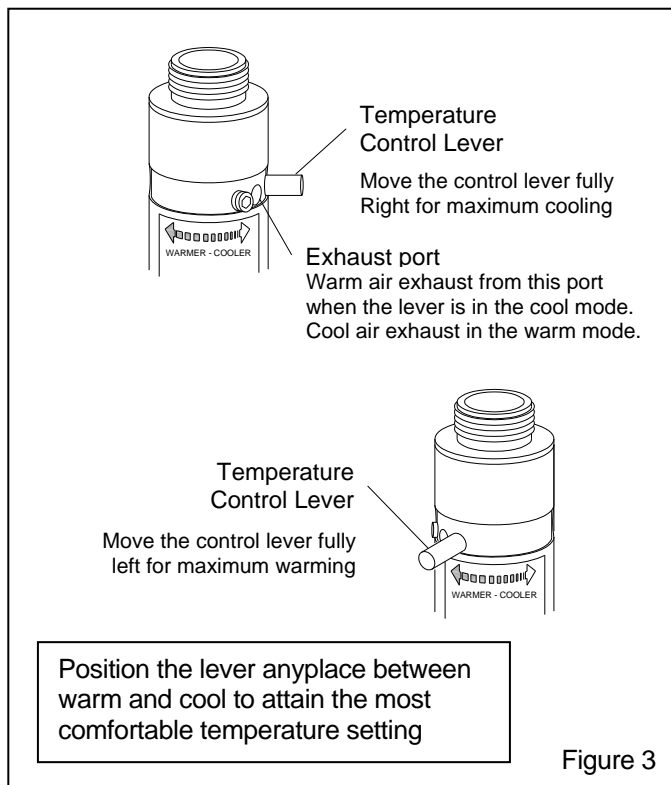

Figure 3
3.4.1 To adjust air temperature, move the temperature control lever (shown in Figure 3) fully toward the right, lighter end of the indicator arrow, for maximum, or fully left, darker end of the arrow for maximum warming. Position the lever anyplace in between to attain the most comfortable temperature setting.